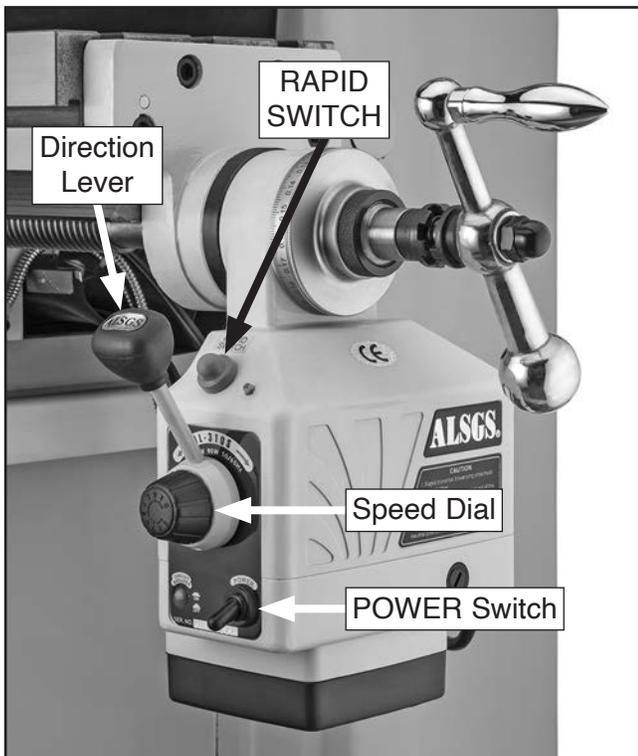

Figure 23. Power feed controls.
3. Turn speed dial all the way counterclockwise to slowest setting, move direction lever to neutral (middle) position, and move POWER switch down (see **Figure 23**).
Note: Once table is in motion, press and hold **RAPID SWITCH** (see **Figure 23**) to move table at full speed. Table will resume previous speed once switch is released.